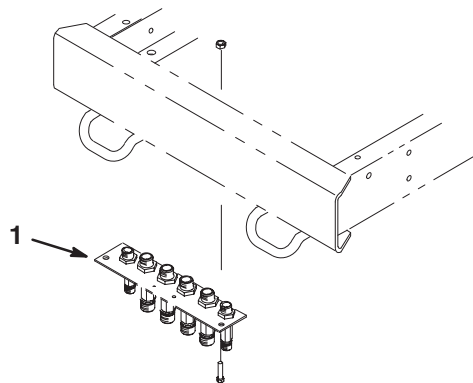

Figure 5
- Clamp the bulkhead assembly to the bumper so that the serial plate is near the center of the bumper. The bulkhead fittings will be located between the rear bumper and axle support (Fig. 5).
3. Using the bulkhead assembly as a template, locate, mark, and drill two 15/32" holes. Secure the bulkhead assembly to the rear bumper with two 3/8–16 x 1" lg. screws and 3/8–16 locknuts (Fig. 5). Remove the clamp.